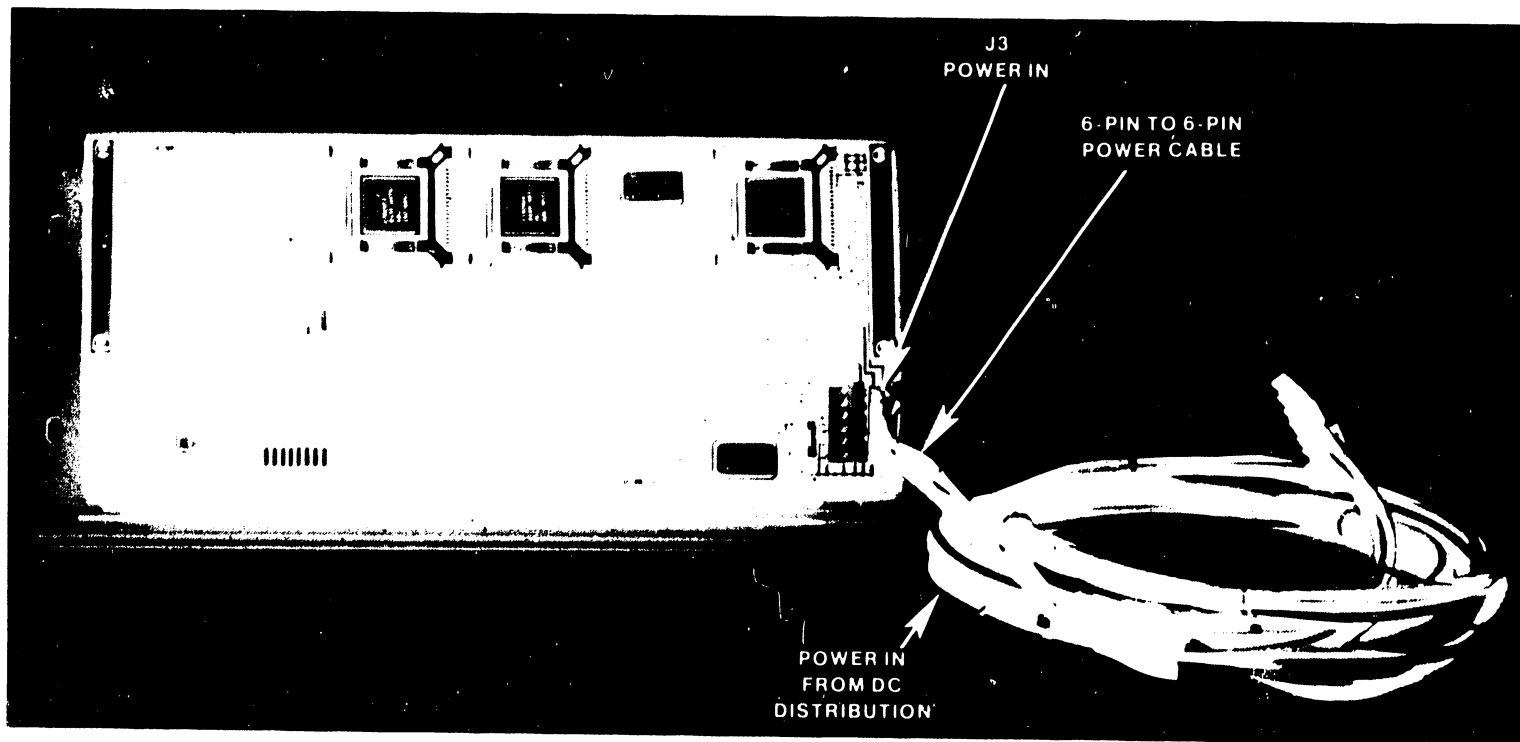

Figure 7-23. 210-8714 CPU/Gate Array Board with Cabling
3. Disconnect the power cable from J3 of the 210-8714 CPU/Gate Array board. (Figure 7-23).